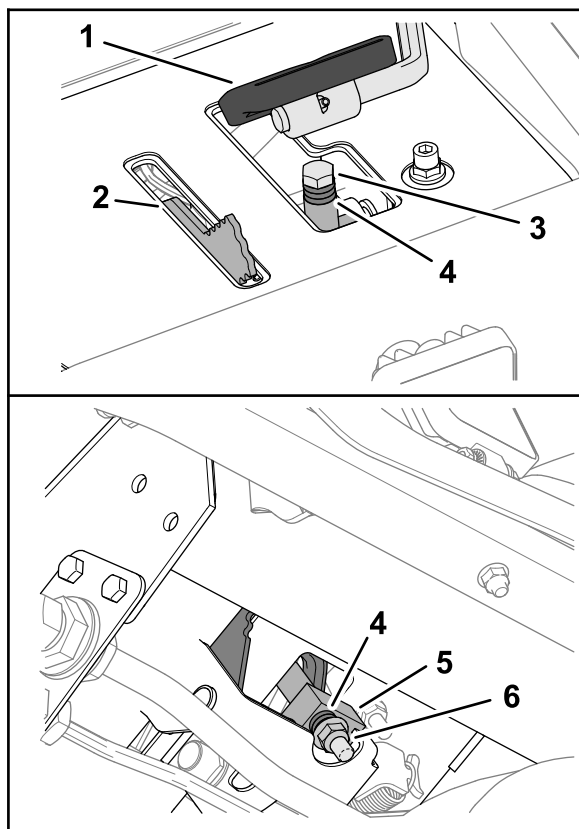

Figure 101
3. Below the traction pedal, remove the stop bolt and flange locknut that secure the spacers to the mow-stop block (Figure 101).